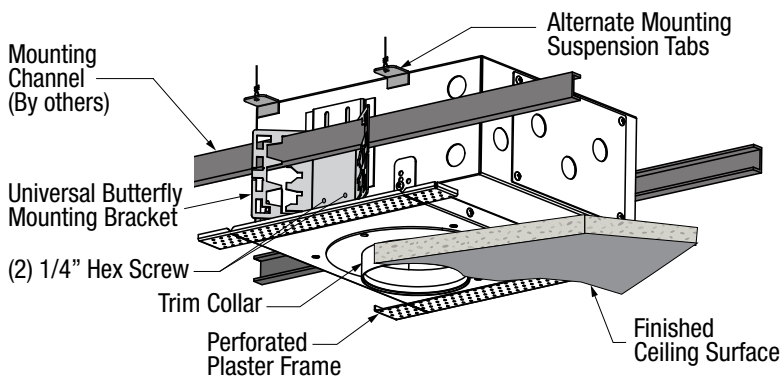

FIGURE 1
Step 5. ADJUST ELEVATION OF FIXTURE so that the surface of the PERFORATED HOUSING PLATE SITS FLUSH with the top of the finished ceiling surface. Fine adjustments can be made by loosening the two (2) 1/4" HEX SCREWS on both UNIVERSAL BUTTERFLY MOUNTING BRACKETS and set accordingly **Fig 1**. See FINE CEILING ADJUSTMENT **Fig 4**.
Step 2. ADJUST ELEVATION OF FIXTURE so that the surface of the PERFORATED HOUSING PLATE SITS FLUSH with the top of the finished ceiling surface. **See Fig 1.**
Step 2. CUT A CLEAN ROUND OPENING in the CEILING MATERIAL to fit the trim collar. Install the ceiling material below housing as shown in **Fig 1. Ceiling Cut-Out - 4.18" Diameter.**